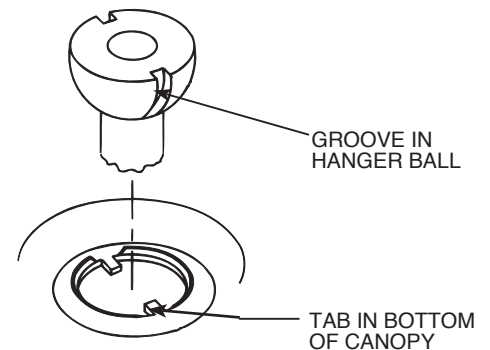

Figure 5C. Aligning Tab & Groove
**B.** Before hanging the fan from the ceiling plate align and engage the (2) tabs in the bottom of the canopy with the (2) grooves in the hanger ball. See Figure 5C.
**CAUTION:** Failure to properly tighten the (3) screws could result in the fan falling.
**NOTE:** For the ball hanging fan configuration make sure the (2) grooves in the ball are engaged with the (2) tabs in the canopy. Failure to do so could result in the fan falling. See Figure 5C.